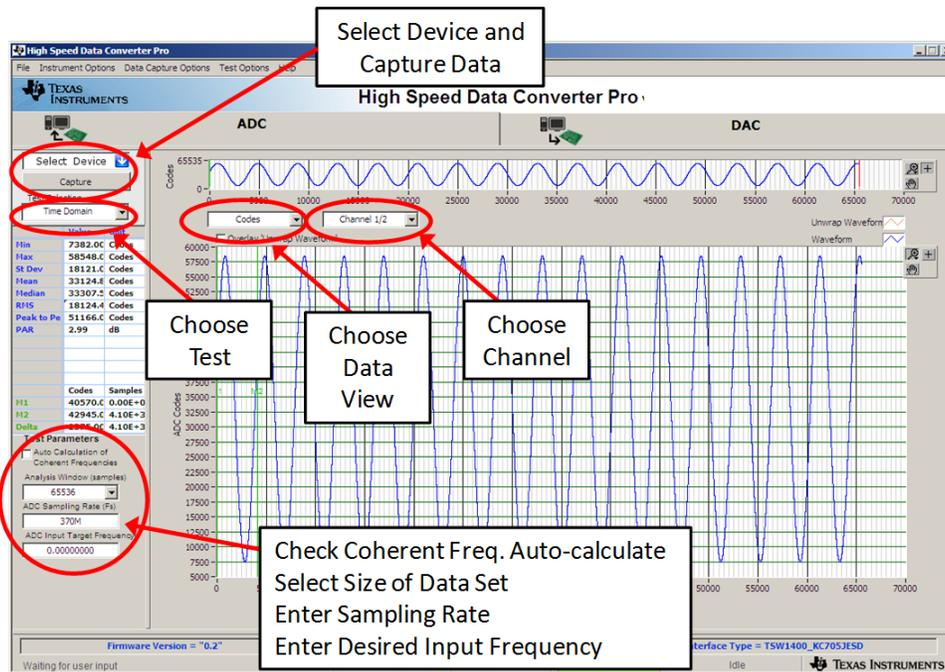

Figure 3. HSDC Pro GUI Main Panel
1. Open High Speed Data Converter Pro by going to *Start Menu* → *All Programs* → *Texas Instruments* → *High Speed Data Converter Pro*. The GUI main page looks as shown in Figure 3.